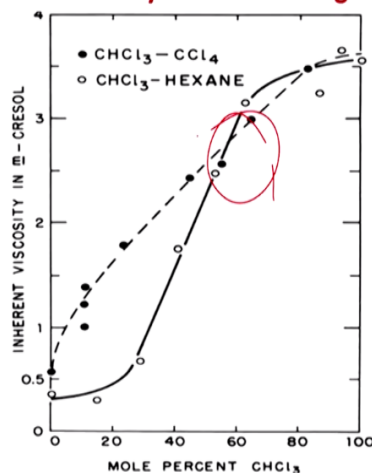

Fig 1: Terephthaloyl chloride and trans-2,5 dimethylpiperazine polymerization in mixed solvents. [Morgan 1963, 1965]
- ✓ The polymerization activity between terephthaloyl chloride and trans -2,5 dimethylpiperazine in mixtures of chloroform with carbon tetrachloride or n-hexane is shown **Figure 1** [Morgan, 1963, 1965].